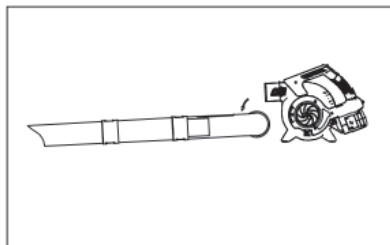

Fig.6
- Place the suction pipe (12) on the suction aperture, as in fig.6 (below). Turn the suction pipe anticlockwise until it stops. Push the suction pipe into the motor housing until it clicks into place.